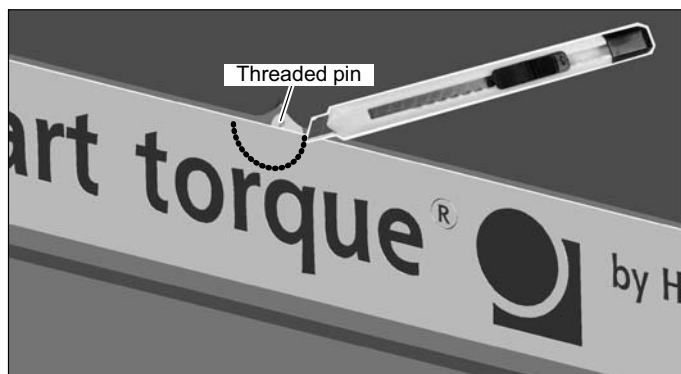

Fig. 8.5 Cut out the film
2. *Only for measuring ranges $500 \text{ N} \cdot \text{m}$ to $3 \text{ kN} \cdot \text{m}$ and subsequently ordered protection against contact:* some of the tapped holes for the locking screws are covered by attached film. Make a semicircular cutout in the film here, with a minimum radius of 6 mm (use a cutter, as shown in Fig. 8.5, for example). Now remove the threaded pins from the tapped holes on both sides of the stator.